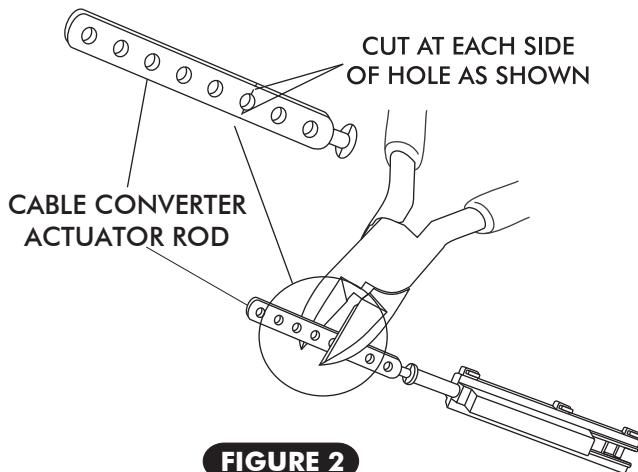

FIGURE 2
- ❑ LOCATE THE (3) CABLE CONVERTER ASSEMBLIES. USING A PAIR OF WIRE CUTTERS, CUT THE CABLE CONVERTER ACTUATOR RODS AS SHOWN IN FIGURE 2, BELOW.